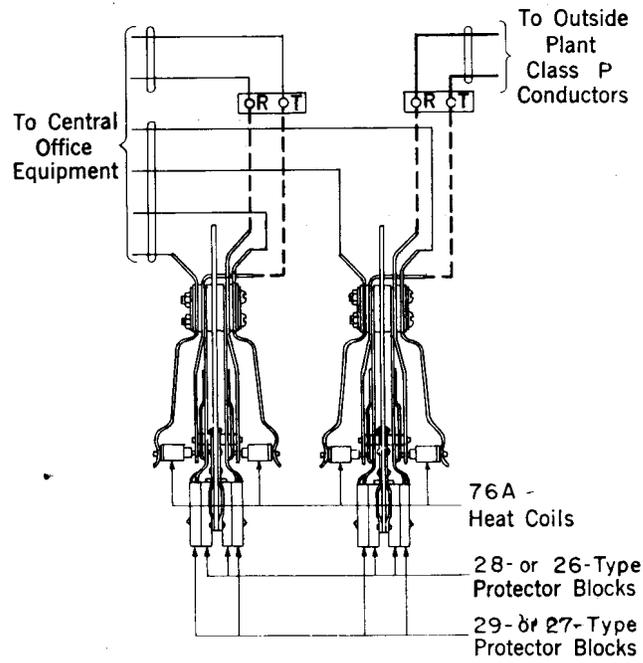

Fig. 6—Class P Conductors—Connection to Auxiliary Central Office Equipment
6.13 Where it is necessary to connect auxiliary central office equipment, such as long line supervisory equipment, the conductors shall be connected and protection provided as shown in Fig. 6.